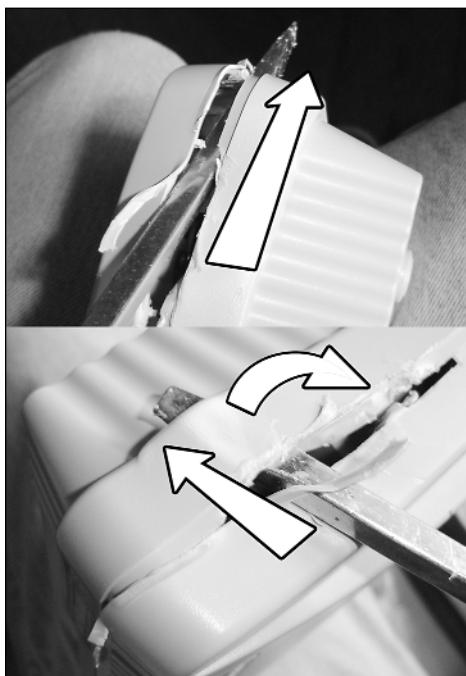

FIGURE 9-3: Separating the case further, and popping a section of plastic.
2. Once you've gotten the edge of the case open, you can push the screwdriver in and further open the case, as shown in Figure 9-3. You'll then have enough room to push the screwdriver out one of the slots on the rear, then pry up the screwdriver to pop out that section of plastic.